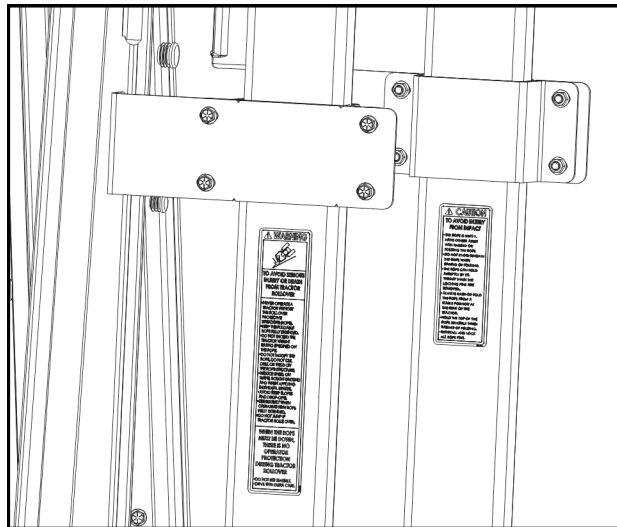

Fig. 22.1 (ROPS Decals)
- 22.1** It is mandatory to install the newly supplied **WARNING** decal to the outboard side of the left ROPS upright due to the original decal being partially covered by the ROPS bracket. See figure 22.1.
- 22.2** It is necessary to install the newly supplied **CAUTION** decal to the inboard side of the right ROPS upright as shown in figure 22.1.